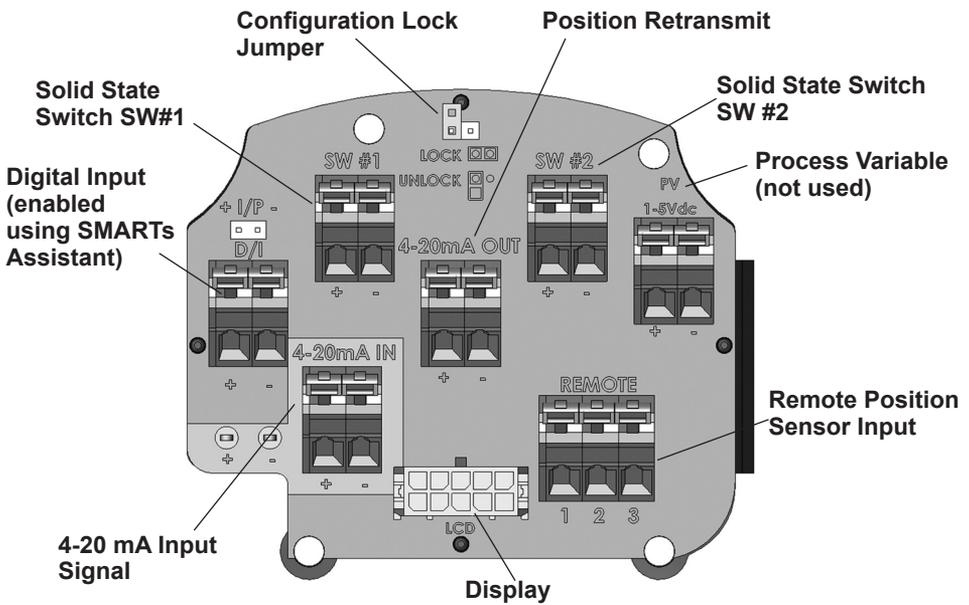

Figure 27 - Connections to Electronics Module (via Terminal Board)
1. Loosen the four (4) cover screws and remove the cover of the SVI II AP. Connect the +/- terminals to the current source + to + and - to -. See Figure 27 on page 51. Reinstall the cover and display.